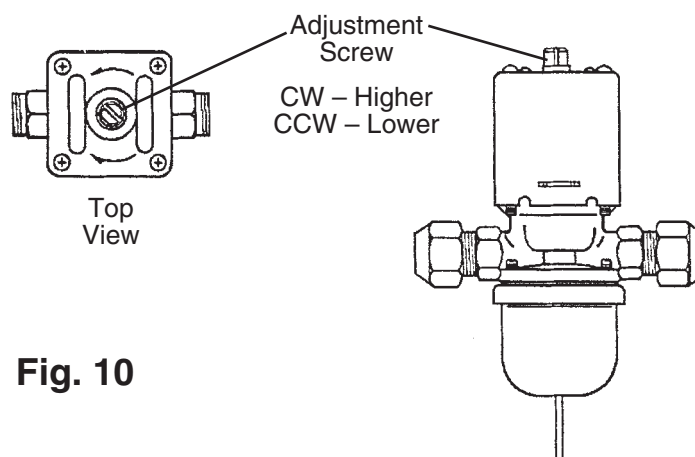

Fig. 10
- 2) Five minutes after a freeze cycle starts, confirm that the thermometer reads 104°F to 115°F (40°C to 46°C). If it does not, rotate the adjustment screw by using a flat blade screwdriver until the temperature is in the proper range. See Fig. 10. Next, check that the reference pressure is in the range indicated in the Head Pressure table. See "III.C. Performance Data." If it is not in the proper range, verify the refrigerant charge.